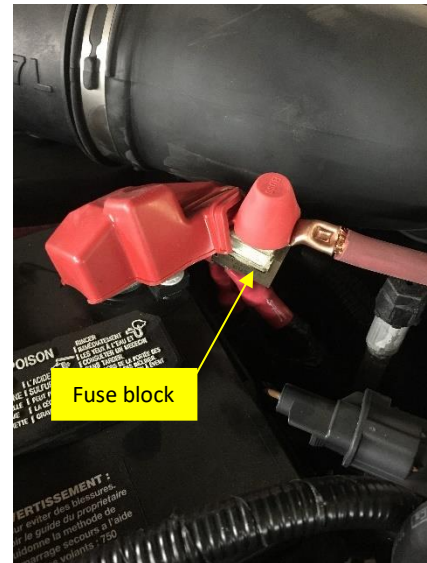

Figure 6
7. Attach the fuse block (**ITEM 8**) to the positive battery post. Thread the red rubber boot (**ITEM 3**) at one end of the 1 gauge red cable (**ITEM 9**), connect the cable end to the open large stud on solenoid and route the cable through the knockout to the vehicle battery and connect it to the fuse block. Figures 6 & 7